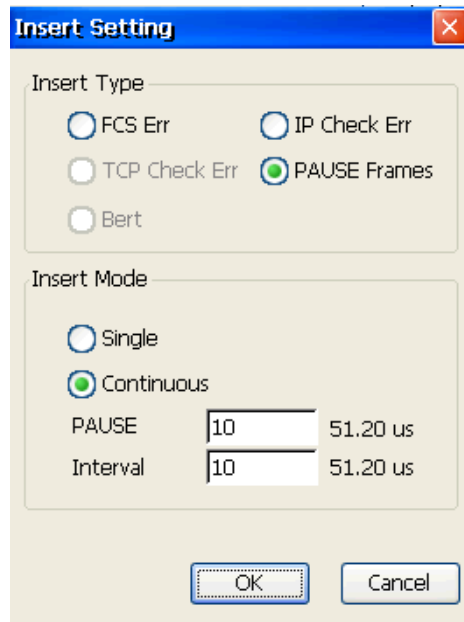

Figure 5.10.3 Traffic Test—Insert Setting
2. **[Insert Setting]**: to set error type and insert mode of inserting error, which including FCS error, IP Check Error, TCP Check Error, PAUSE frames and bert, as is shown in figure 5.10.3. But if multiple stream test or test level is physical layer, error must not be inserted.